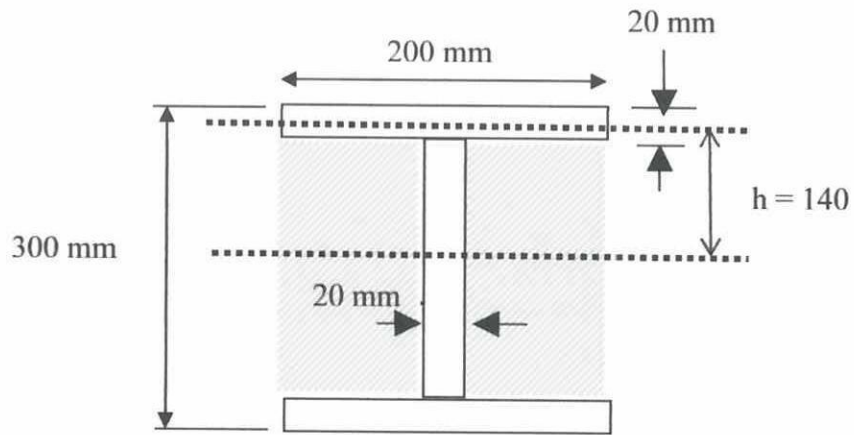

Figure 3(a)
- Q3 (a) Determine the second moment of area for beam cross-section as shown Figure 3 (a) below: